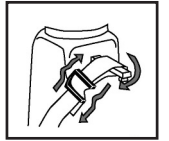

Fig. 2
- Assemble and attach the shoulder strap to the spraying tank (Fig.2).